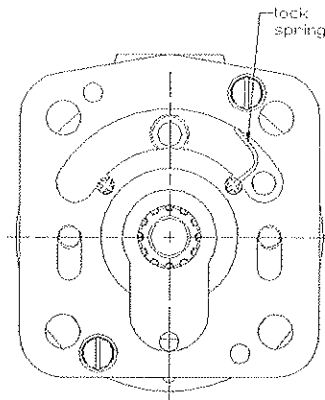

Fig. 7
5.6.c Adjusting relief valve pressure (see Fig. 7)